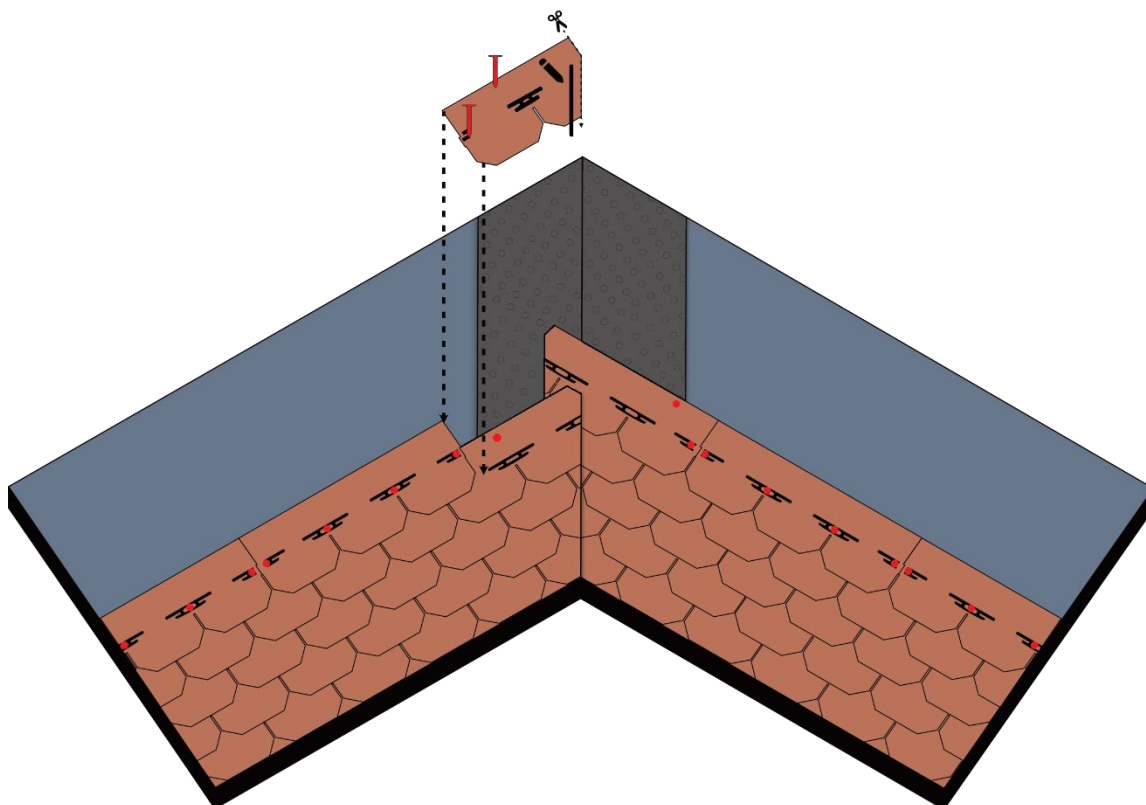

Fig. 14 - Shingles installation at valleys
- Cross-cut the top edge of the shingle to the valley - Fig. 14, so as to convey the descending water along the axis of the valley. Lift the shingles one at a time and fix them by torch to the membrane below. Where you come to the gritty shingle of the first pitch, apply Bitustick to the lower part to fix it - Fig. 14.